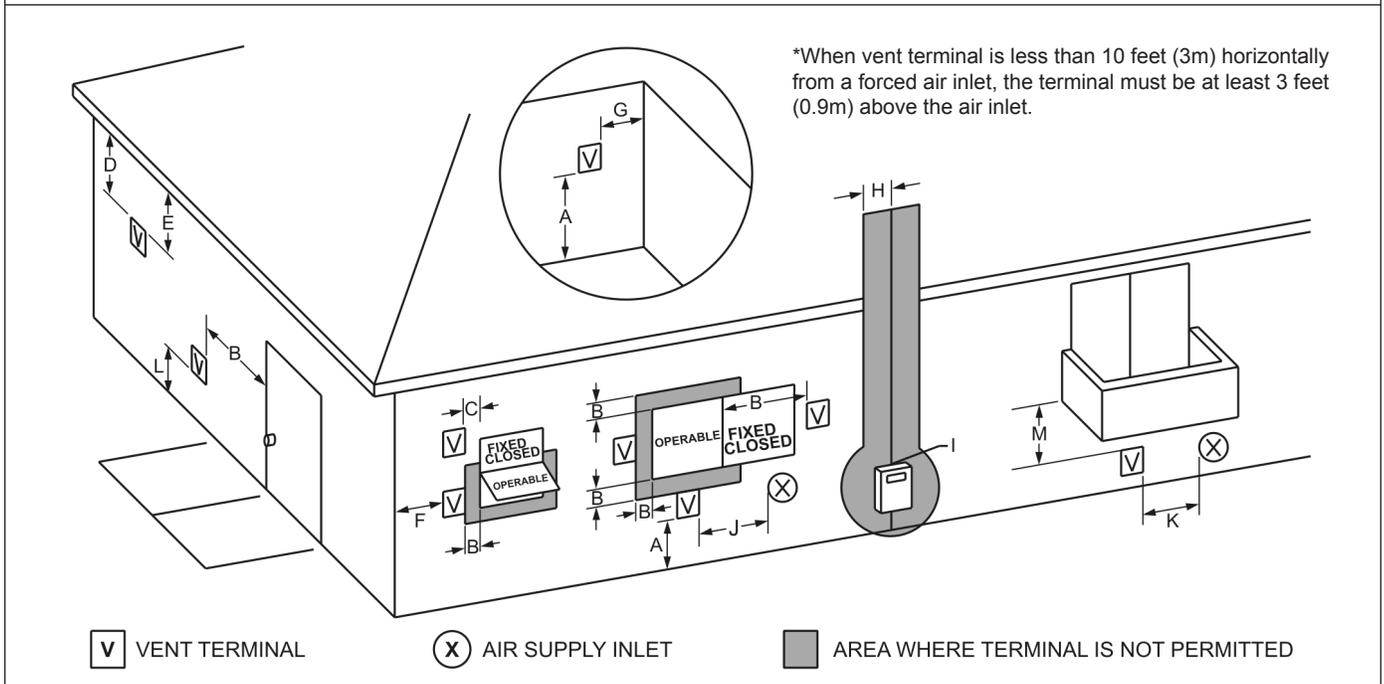

Figure 9. Combustion Air and Vent Through Side Wall.
1. **Figure 9** shows the requirements for mechanical vent terminal clearances for the U.S. and Canada.
7. If the boiler or water heater uses ducted combustion air from an intake terminal located on the same wall, see **Figure 9** for proper spacing and orientation.
The LAARS side wall combustion air terminal, or concentric terminal (see **Table 3**), must be used when the heater takes air from a side wall. Consider the following when installing the terminal (see **Figure 9**):